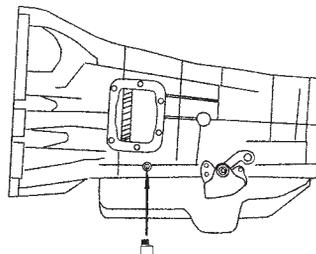

Fig 2
- Install the elbow into the main pressure port located directly below the PTO opening. Install this elbow as far as it will go while positioning the port towards the rear of the vehicle (Fig 2).